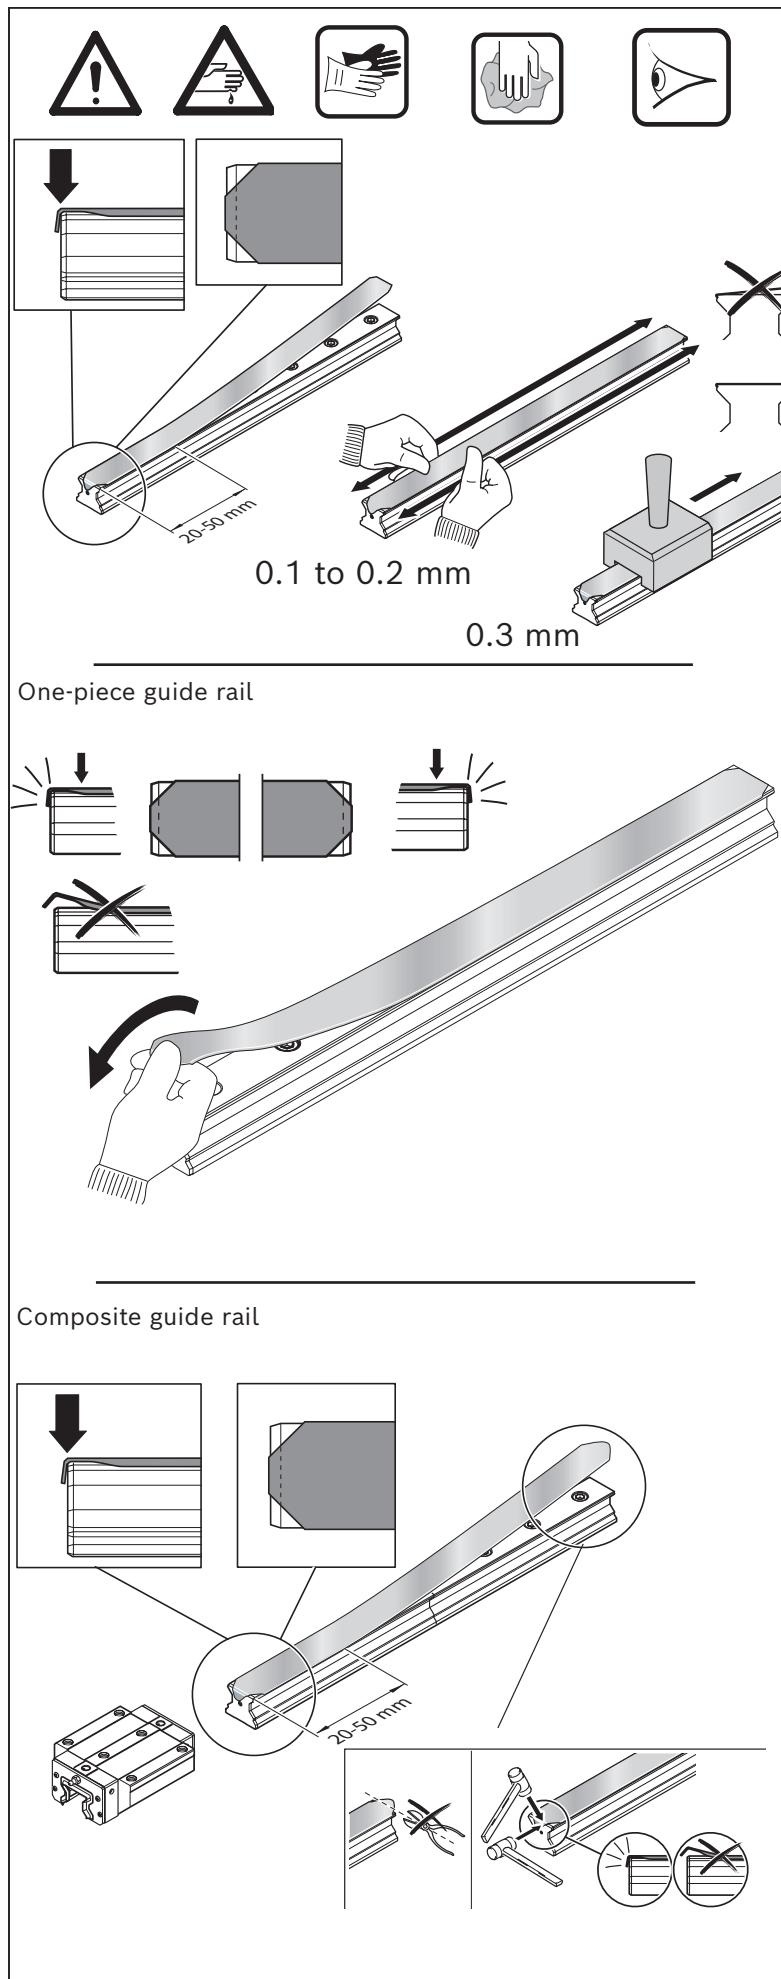

Fig. 35: Mounting Rail Seal
- ▶ If necessary, shorten the end of the seal just enough to expose the tapped hole on the rail end face **→ Fig. 35**